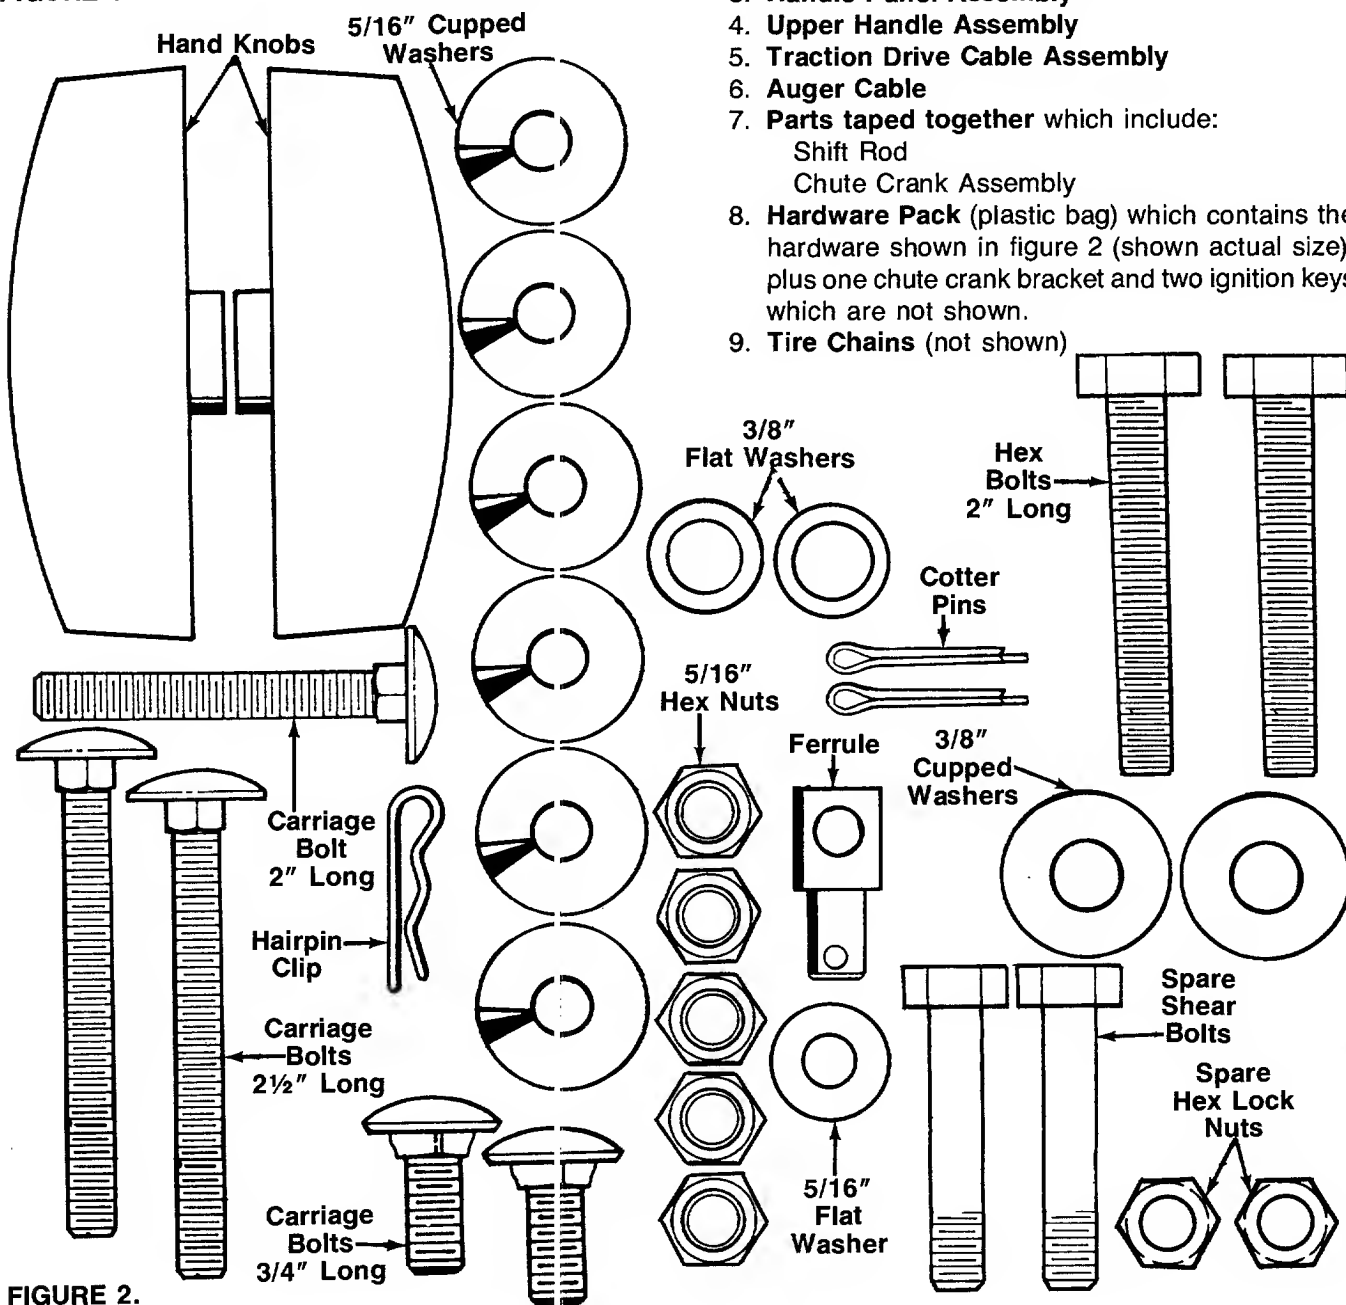

FIGURE 2.
8. Hardware Pack (plastic bag) which contains the hardware shown in figure 2 (shown actual size), plus one chute crank bracket and two ignition keys which are not shown.